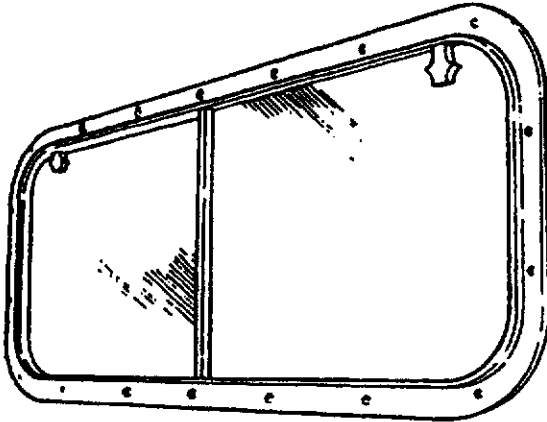

Figure 1-16 Rear Window
**96. Rear Window (Fig. 1-16)**